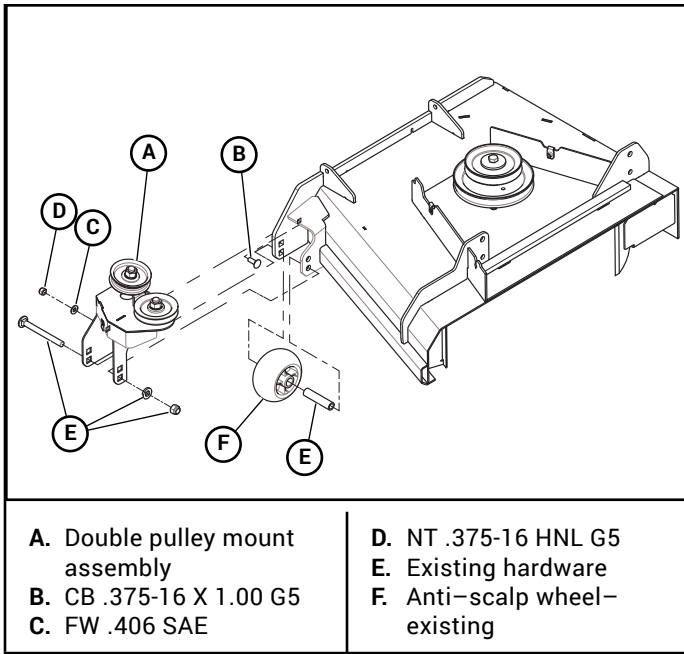

Figure 3-3
7. Attach the double pulley mount assembly to the deck using the hardware shown. Figure 3-3
8. Re-attach the anti-scalp wheel to the deck using the existing hardware. Figure 3-3